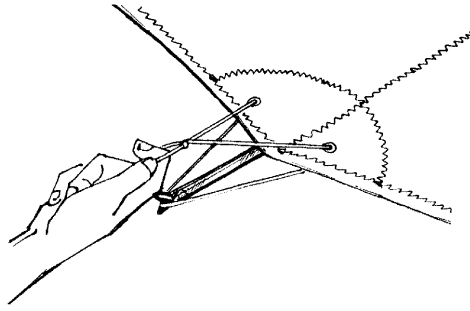

Fig. 25
2.2.7. Secure the rear end of each batten by first looping the bottom loop of leech line around the notched batten end, and then attaching the top loop using the extra loop as a handle (Fig.25,26). Be sure the leech line loops are not caught underneath or wrapped around the luff lines.